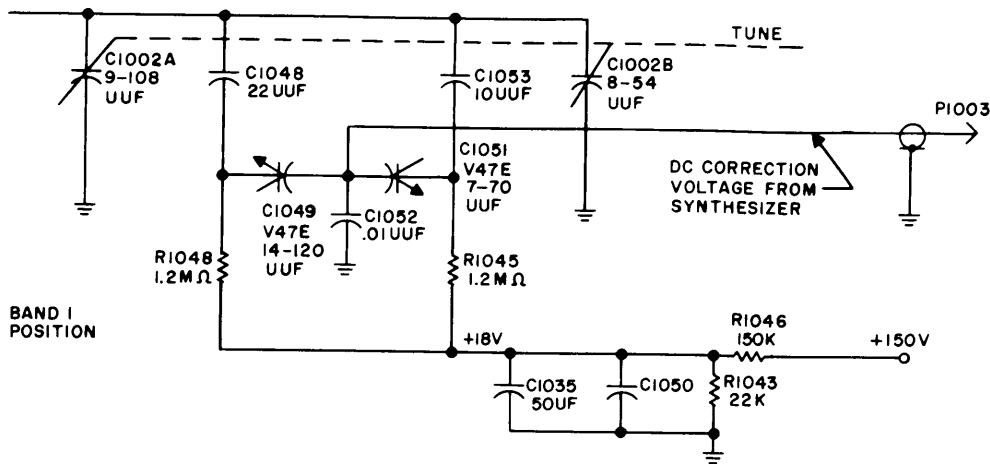

Figure 4-5. VARICAP, Simplified Schematic Diagram
In synthesized operation, HFO frequency is controlled by the VARICAP circuit shown in simplified schematic figure 4-5. A DC correction voltage from the synthesizer unit changes the difference of potential across C1049 and C1051 thereby changing the capacity shunting C1002A and C1002B. Figure 4-5 shows the VARICAP and tuning capacitors connected to oscillator tuner strip A1002 (BAND 1 position); circuit configurations for oscillator tuner strips A1004 through A1016 are similar. Both sections of C1002 are not utilized with all tuner strips; regardless of the tuner strip engaged, at least one VARICAP control is inserted to "pull" the frequency as required.
d. LOW VOLTAGE POWER SUPPLY. See figure 4-5. The low voltage power supply consists of transformer T1302 and a full wave bridge rectifier comprising diodes CR1301, CR1302, CR1303, and CR1304. Line voltage (115- or 230-VAC) applied to the primary of transformer T1302 is stepped down to 61 VAC in the secondary, rectified by the full wave bridge, and dropped and regulated at 28 VDC $\pm 5\%$ by resistors R1331 and R1332 and diode CR1305. Plus 28 VDC is extended through jack J1 to the proportional oven control and through jack J1305 to the frequency standard unit of the synthesizer (HFS-1 in DDR-5 operation). Plus 28 VDC is further dropped by resistor R1333 and regulated at 6.3 VDC by diode CR1306; 6.3 VDC is extended through jack J1306 to the HFO (V1007) filament.